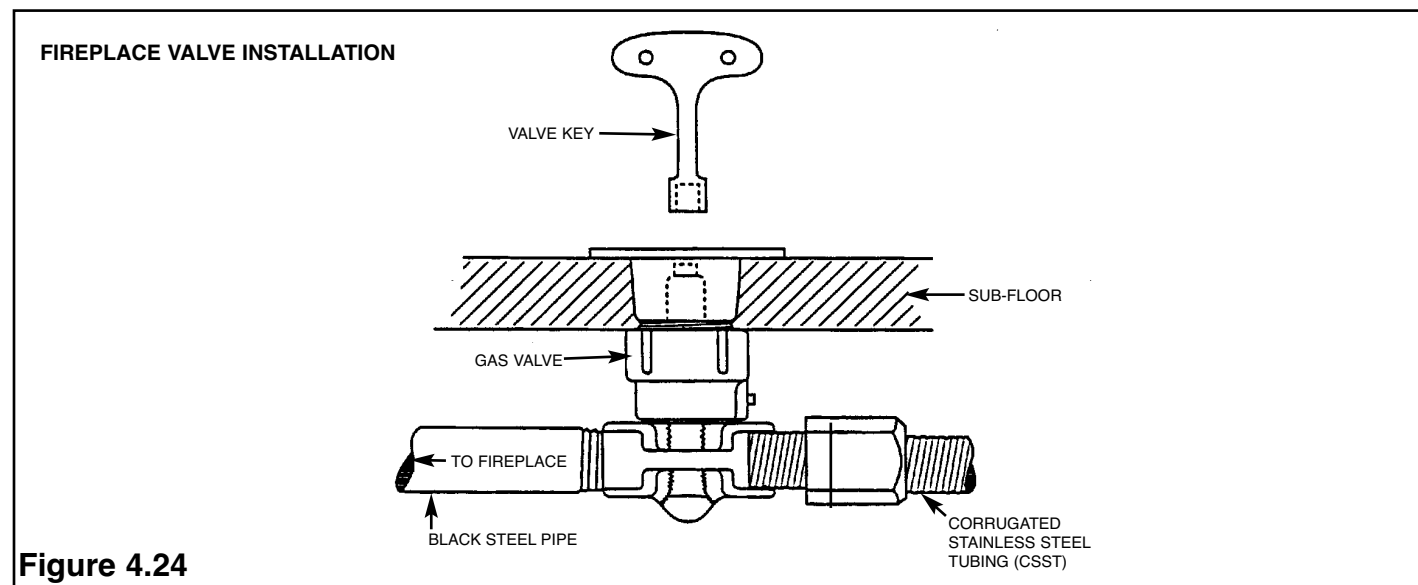

Figure 4.24
The connection to a valve controlling gas flow to a fireplace appliance may be concealed when installed as shown in Figure 4.24. The concealed tubing fitting can be installed beneath the floor, or hearth, or inside the brickwork of the fireplace. WARDFLEX tubing and fittings shall not be installed inside the firebox for connection of log lighters or gas wands.
- **WARDFLEX may be concealed** and may be used with flush mounted, key operated gas valves (See Figure 4.24) mounted in floors, walls, or the fireplace structure where hard piping is difficult. Commercial valves are available specifically for this service.